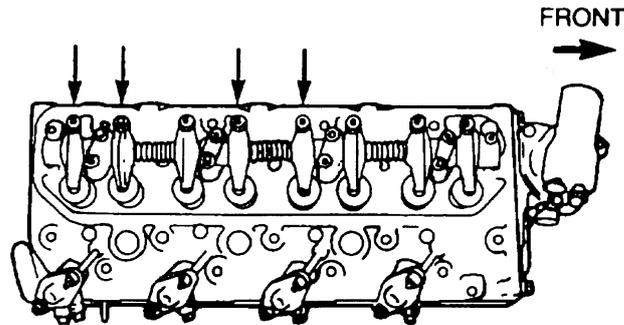

Figure 11 Valve Adjustment Second Sequence
- h. Check that the valve clearances for the valves are 0.4 mm (0.016 in) and adjust the clearances as necessary (Figure 11).